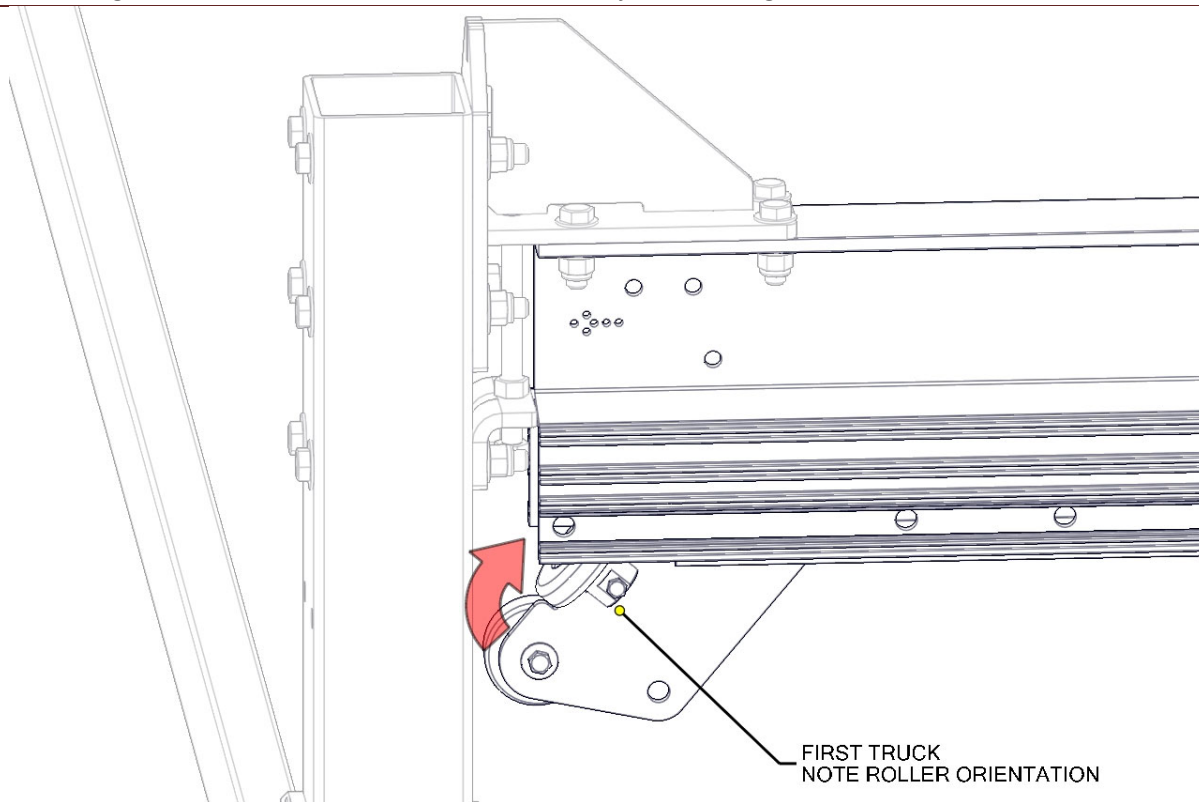

Figure 40 - Install the First Truck
- Install the first truck by pivoting it into the end of the rail as shown in Figure 40.